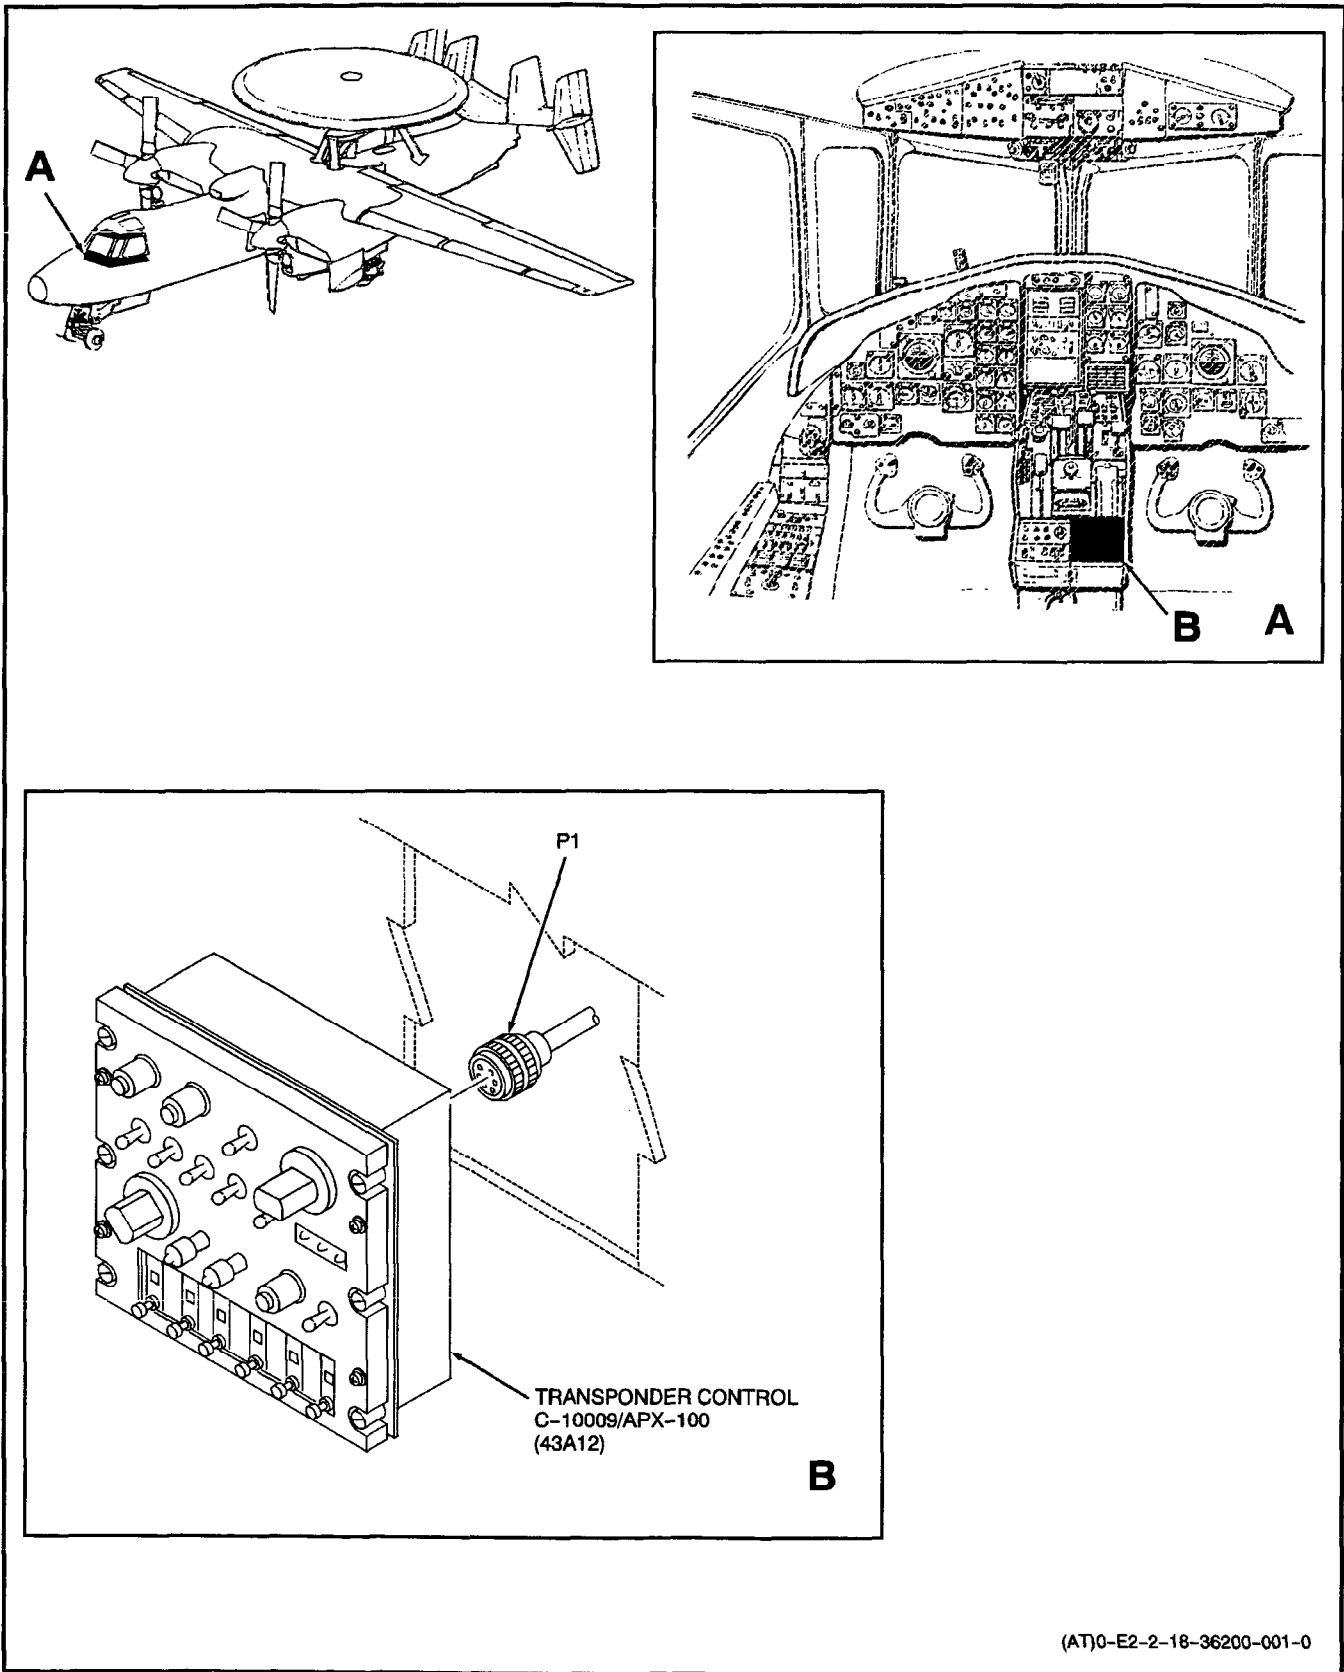

Figure 1. Removal and Installation of Transponder Control C-10009/APX-100
**3. REMOVAL.** (Figure 1.)
**4. INSTALLATION.** (Figure 1.)